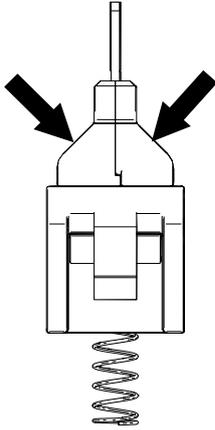

Fig. 154: Check sliding components for wear
- Disconnect the collector head (1) from the connector (2) of the data cable (HF cable) (3). The data cable (HF cable) must protrude approx. 30 mm from the joint (see Fig. 154).
→ When removing the cover, check the sliding components for wear (see Fig. 154). With heavy wear (> 1.5 mm), order a new collector head (copper graphite: 051592-11 or graphite: 051592-12).